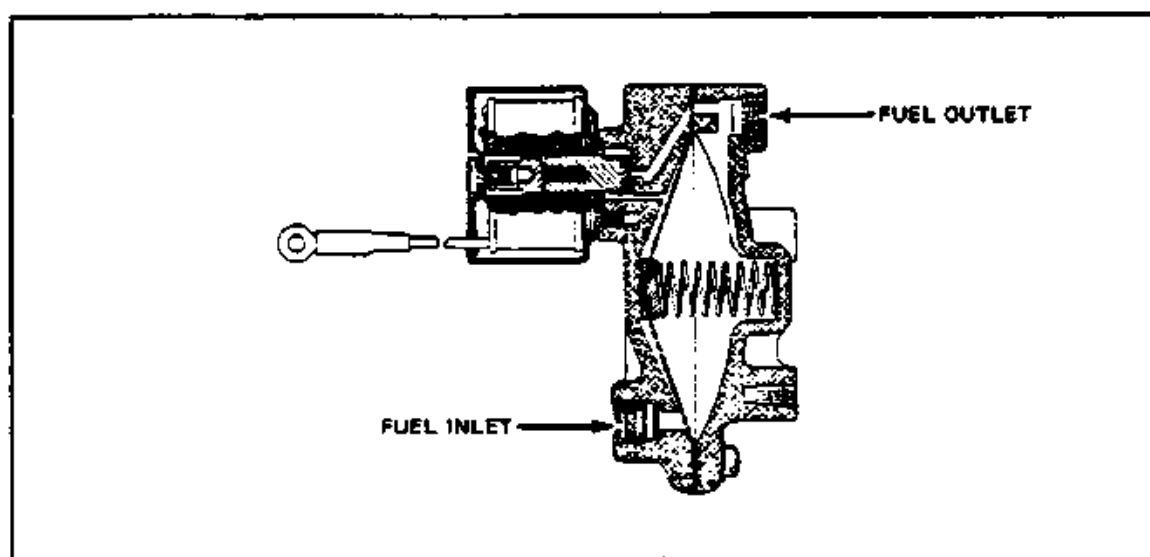

Figure 13-8. Fuel Safety Valve (Cutaway View)
**13-11. SAFETY VALVE.** The safety valve (Refer to Figure 13-8.) which is supplied with the heater consists of a shut-off solenoid and a casting which houses a large diaphragm and spring. The safety valve provides the initial flow of fuel for ignition. Additional fuel to sustain combustion is permitted to flow only after the shut-off solenoid of the safety valve is energized during a starting cycle. Fuel flows from the fuel source through the filter to the inlet side of the safety diaphragm. Pressure of fuel against the diaphragm forces gasoline, contained in the opposite side of the chamber, through the outlet port into the heater.